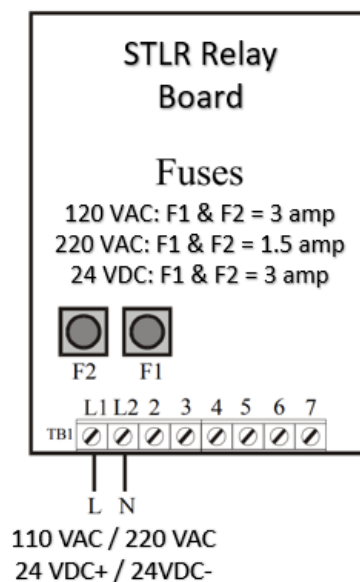

Figure 30: STLR Relay Board Control Wiring
The STLR Relay Board must have input power supply voltage on Terminals L1 & L2. There are three versions of the STLR Relay Board, each of which supports a different input voltage. Part Number (PN) 57214A0001 supports 220VAC, PN:57214A0002 supports 110VAC, while 57214A0003 Supports 24 VDC. See Figure 30 for F1 and F2 Fuse requirements for the STLR Relay Board.